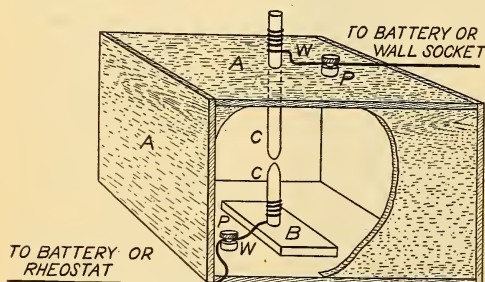

FIG. 1. SIMPLE ARC LIGHT.
A very simple yet interesting miniature arc light can be made at almost no cost. The first thing needed is a cigar box. Take off the top, and it should now look like (A) in Fig. 1. The next thing necessary is a small block of wood (B), which should be fastened to the bottom of the box, after having a